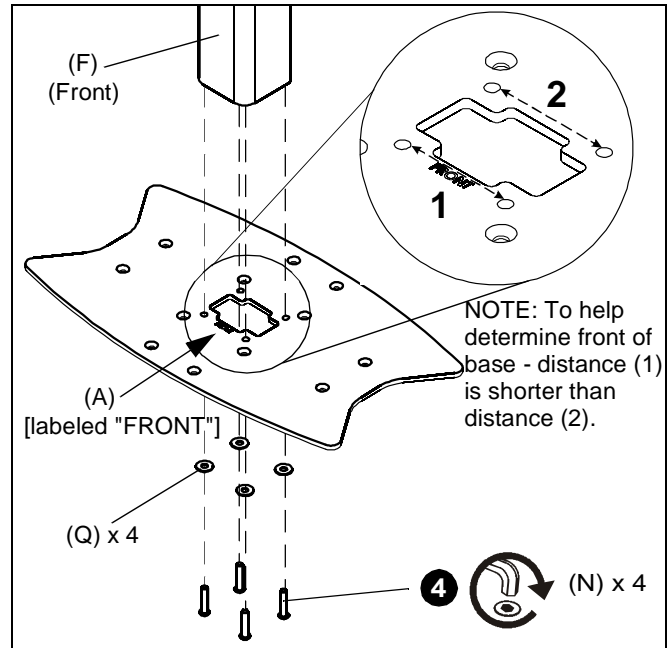

Figure 2
4. Attach top base section (A) to the center post (F) using four 5/16-18 x 1-1/2" button head cap screws (N) and four 5/16" flat washers (Q). (See Figure 2)
NOTE: Ensure that post (F) front is placed to the front of base section (A). Check for "FRONT" on base section (A). (See Figure 2)